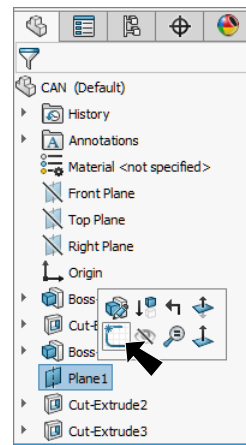

Fig. 47
Step 1. Click **Plane1**  in the Feature Manager and click **Sketch**  on the context toolbar, **Fig. 47**.